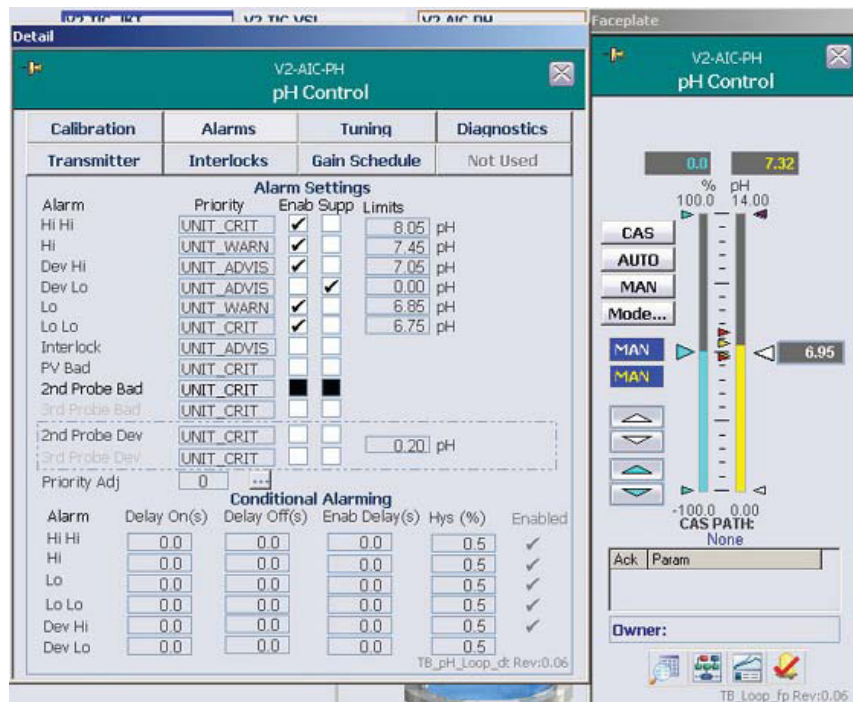

Figure 4.7. Hi-Hi, Hi, Lo, and Lo-Lo alarms set for pH control.
2. Click the “Alarms” tab. Set the Hi-Hi limit, Hi limit, Lo limit, and Lo-Lo limit (Figure 4.7).